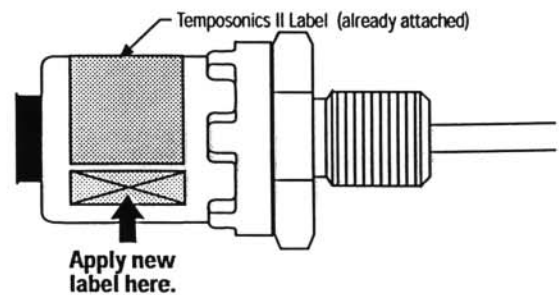

Figure 2
9. Once cover is secure, attach the label provided as shown in Figure 2.